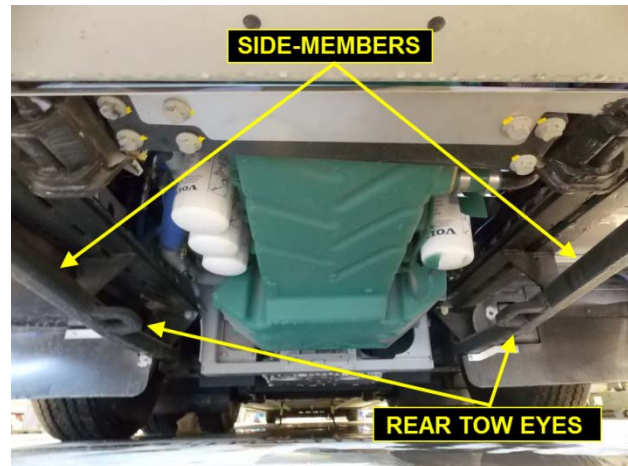

FIGURE 60: REAR TOW EYES ON SIDE MEMBERS LOCATED UNDER ENGINE CRADLE SUPPORT RAILS
5. Deploy the tow truck stinger arm. Place the axle forks under the rear tow eyes if equipped or under the side members (Figure 60).